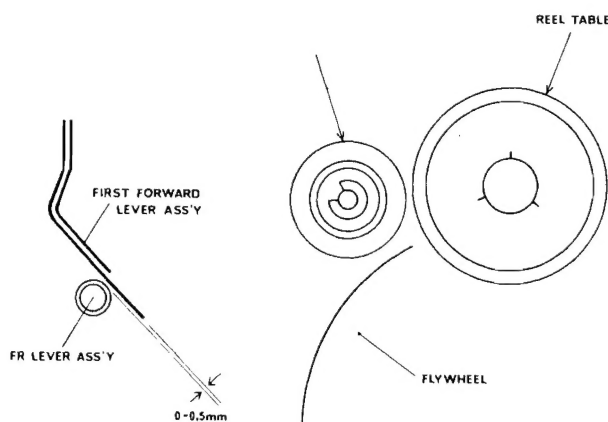

Fig. 18
3. Adjust as shown(A) in Fig. 18 with the cassette button at Stop position. If the torque cannot be adjusted to 70-130 gcm then replace limmitter (B).